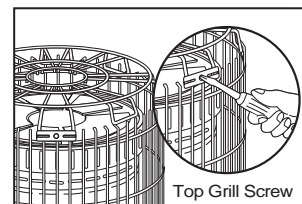

Fig.7
E) INSTALLING TOP GUARD: (Fig.7)